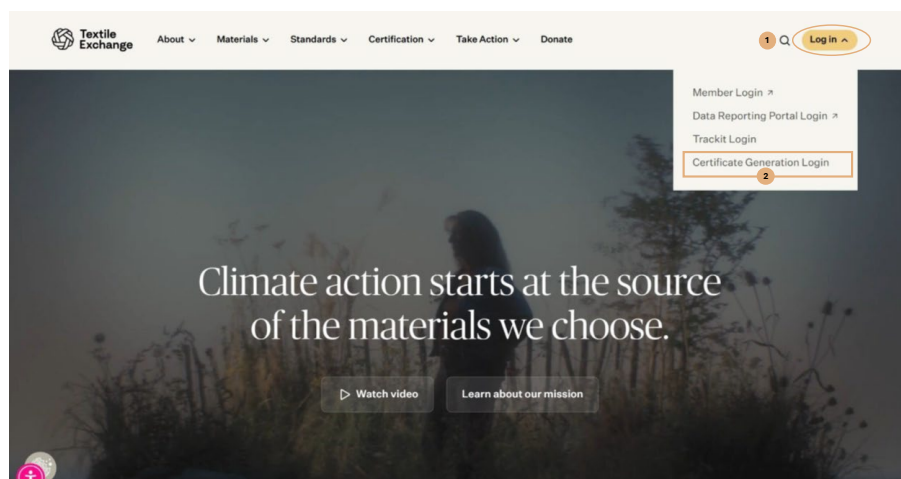

Figure 1: Textile Exchange material ledger user interface login.
3. In the drop-down menu, click on **Certificate Generation Login** [2] as shown in Figure 1.